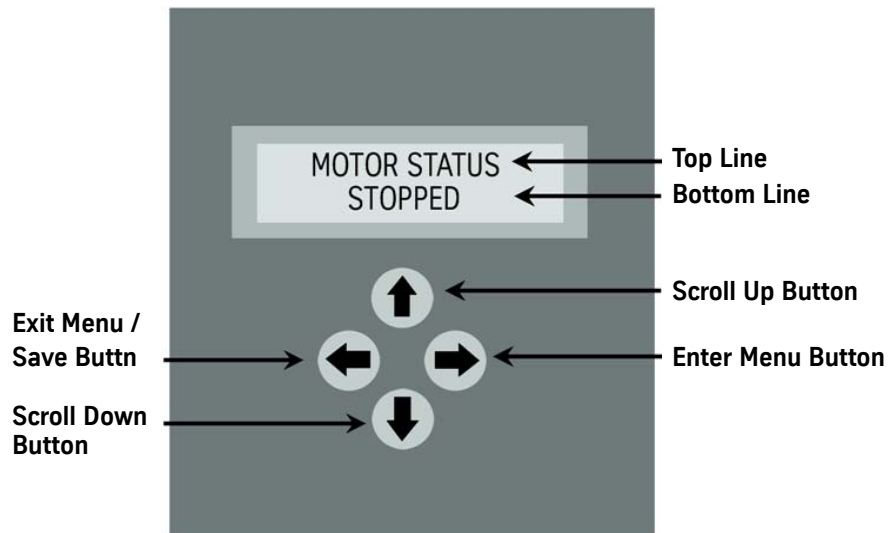

Figure 4 - Electronic Starter Menu
1. Confirm that the electronic starter is energized and the LCD displays **MOTOR STATUS STOPPED**. See Figure 4.